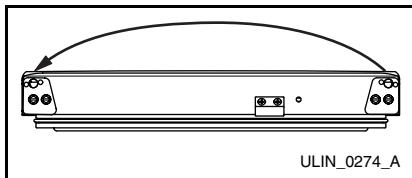

Figure 22
8. With bottom of door facing up, remove pivot plate (two screws), flip over, and remount on opposite side of door (**Figure 22**). **Be sure slanted side of plate faces center.**